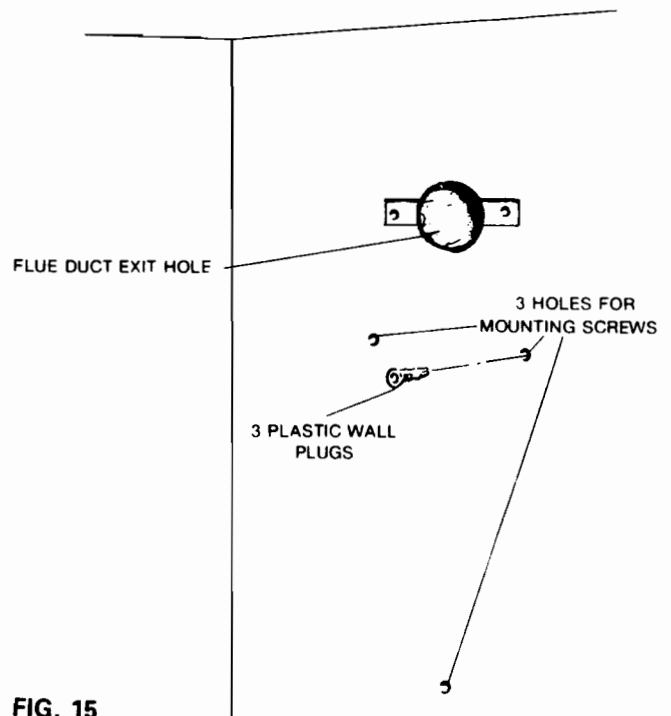

FIG. 15
- h) Place the template over the fixed wall liner ensure the template is level. Mark out the three 7mm dia. holes, drill to 50mm deep and insert the three plastic wall plugs provided in the terminal assembly pack (see Fig. 15).